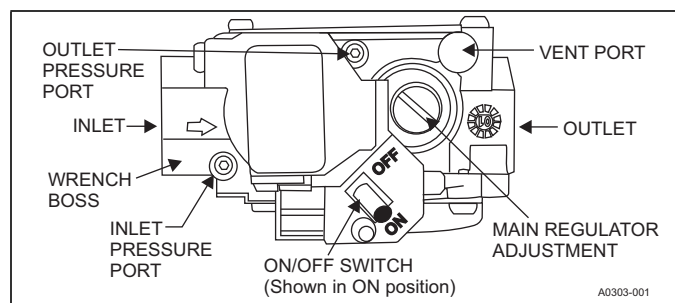

FIGURE 10: Gas Valve
Small adjustments to the gas flow may be made by turning the pressure regulator adjusting screw on the automatic gas valve. See Figure 10.
1. Remove the cap from the valve body. See Figure 10 for location.